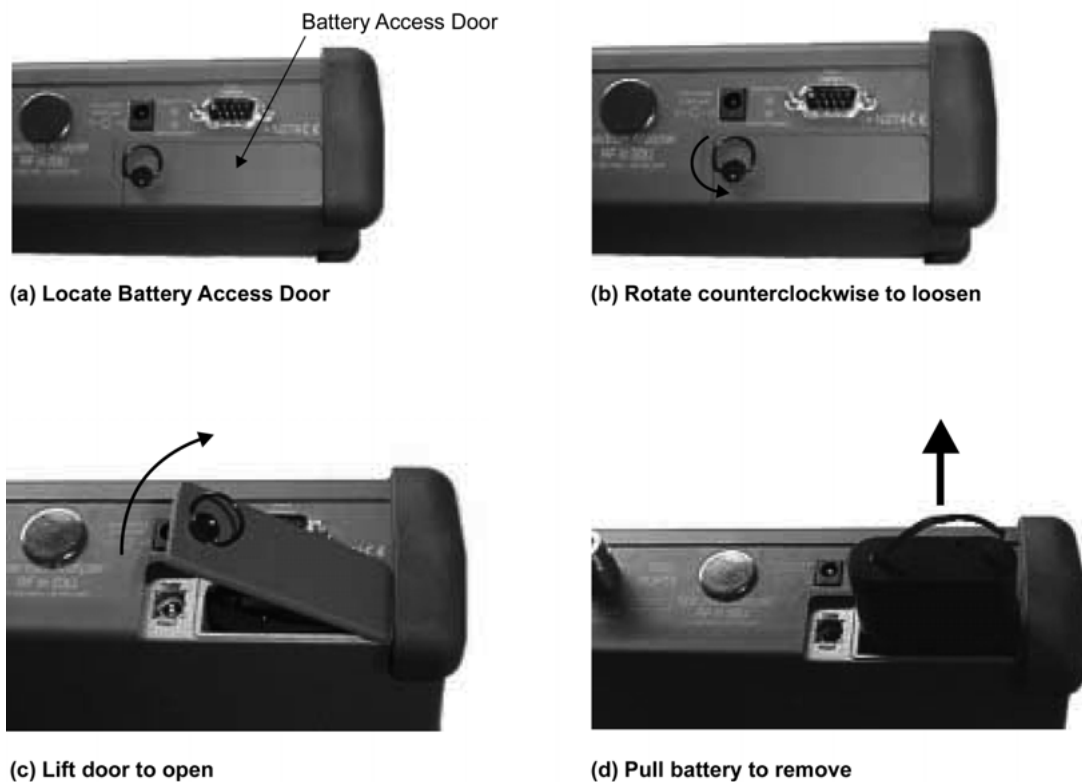

Figure 3-1. Battery Pack Removal
1. With the Site Master standing upright on a stable surface, locate the battery access door (Figure 3-1).
2. Lift up the access door handle and rotate it 90° counterclockwise, as illustrated in Figure 3-1.
3. Lift the door and remove, as illustrated in Figure 3-1.
4. Grasp the battery lanyard and pull the battery straight up and out of the instrument, as illustrated in Figure 3-1.